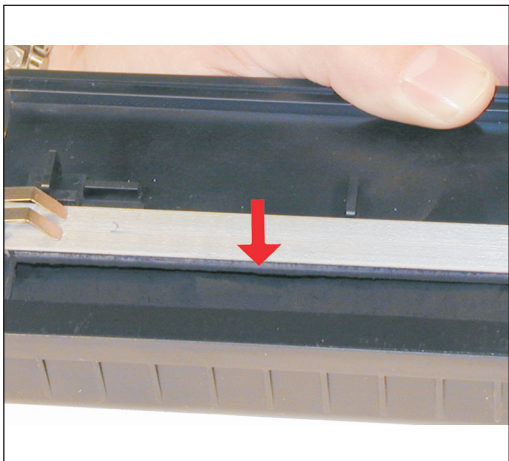

Figure 16
13) Clean the working edge of the doctor blade with a Scotch-Brite pad and alcohol. See Figure 16